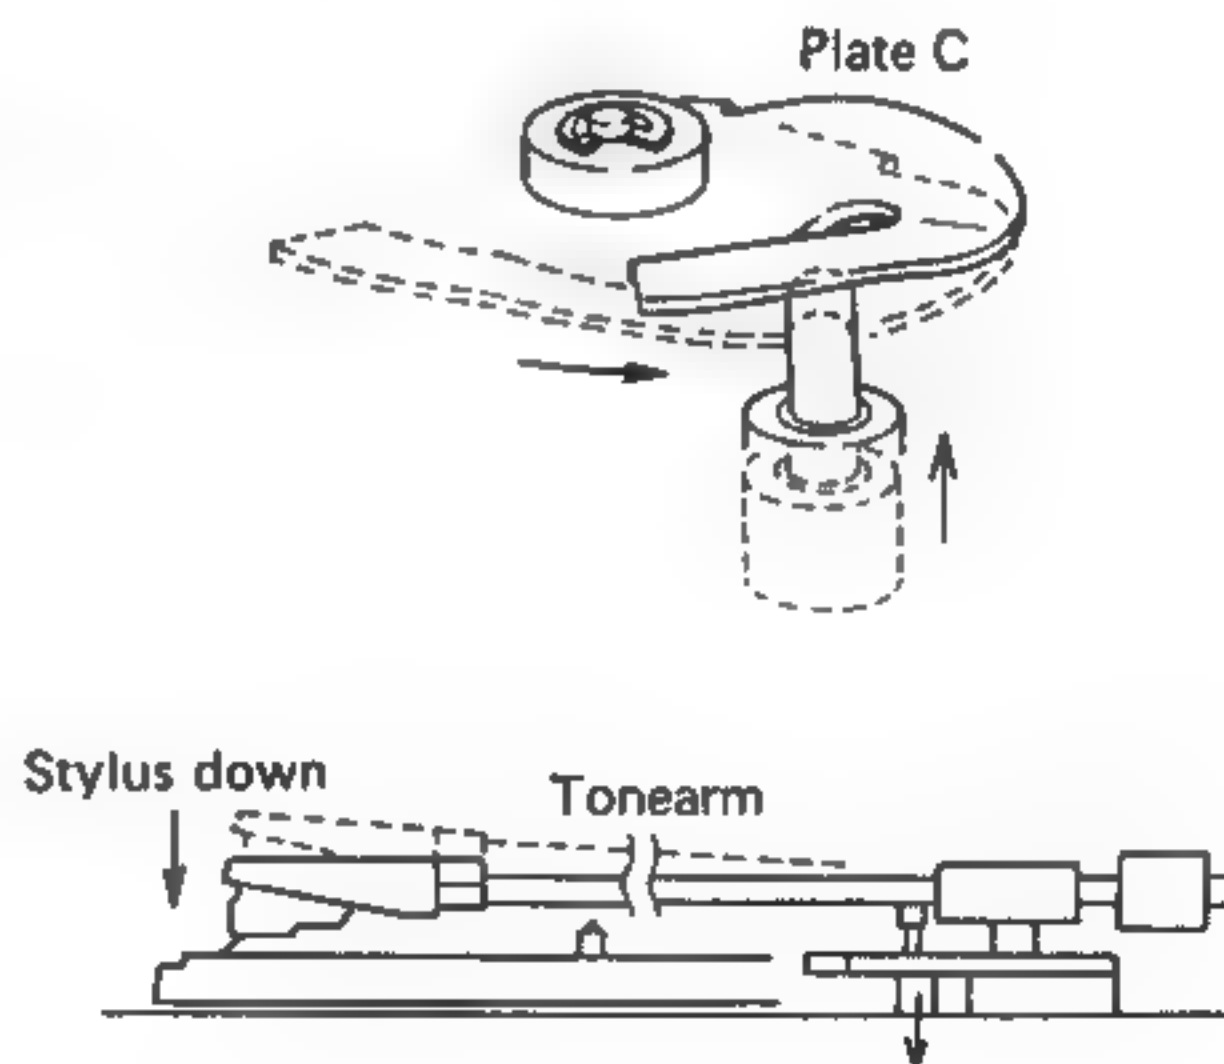

Fig. 6
8. Slanted section of plate C lowers tonearm stylus onto record (Fig. 6).